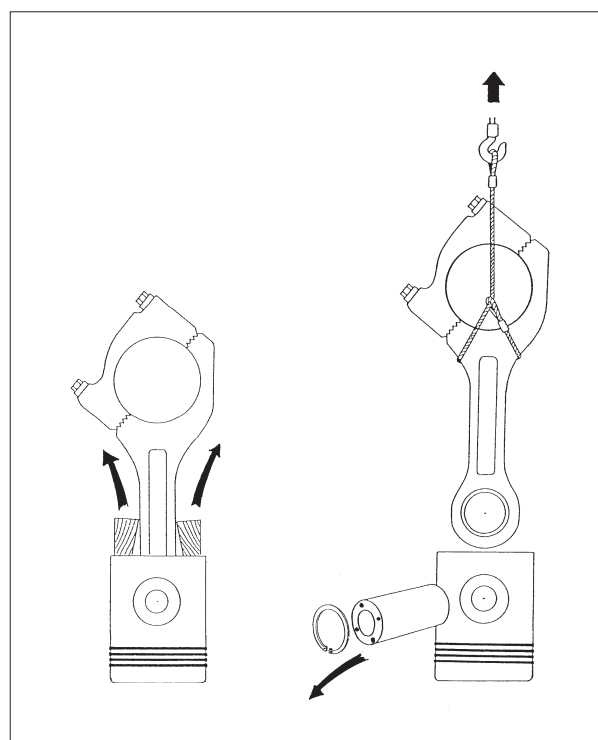

Fig. 3.
4) Place the piston and connecting rod assembly in upright position resting on the top face of the piston crown, see fig. 3.
5) Place a wire around the big-end of the connecting rod, attach a tackle and tighten the wire rope, see fig. 3